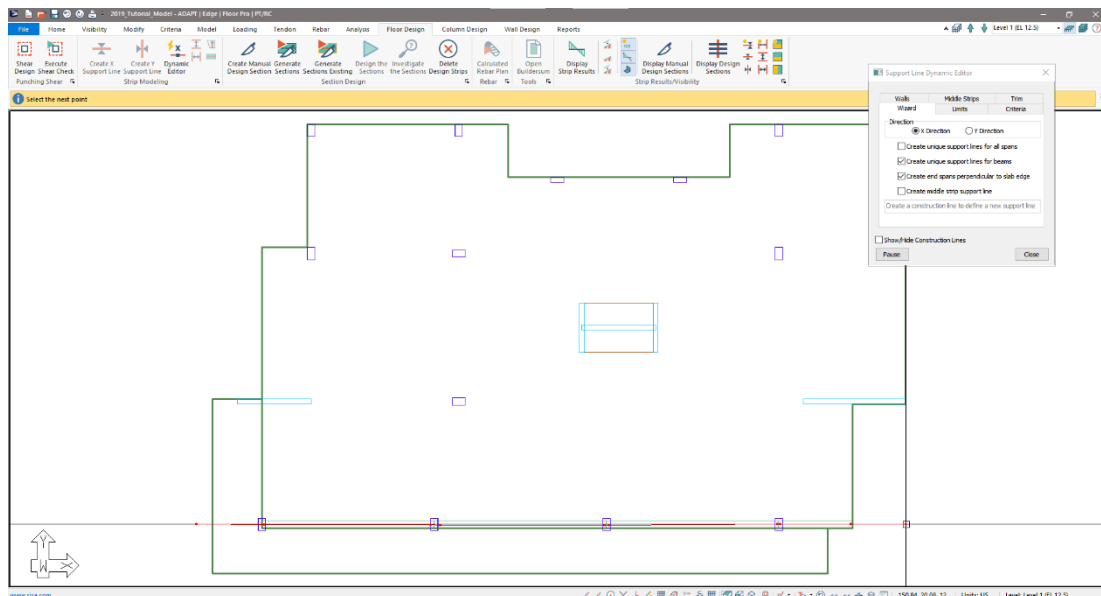

Figure 9-7
- Position your mouse along the column line but outside of the slab to the right of the floor as shown in **FIGURE 9-7**.